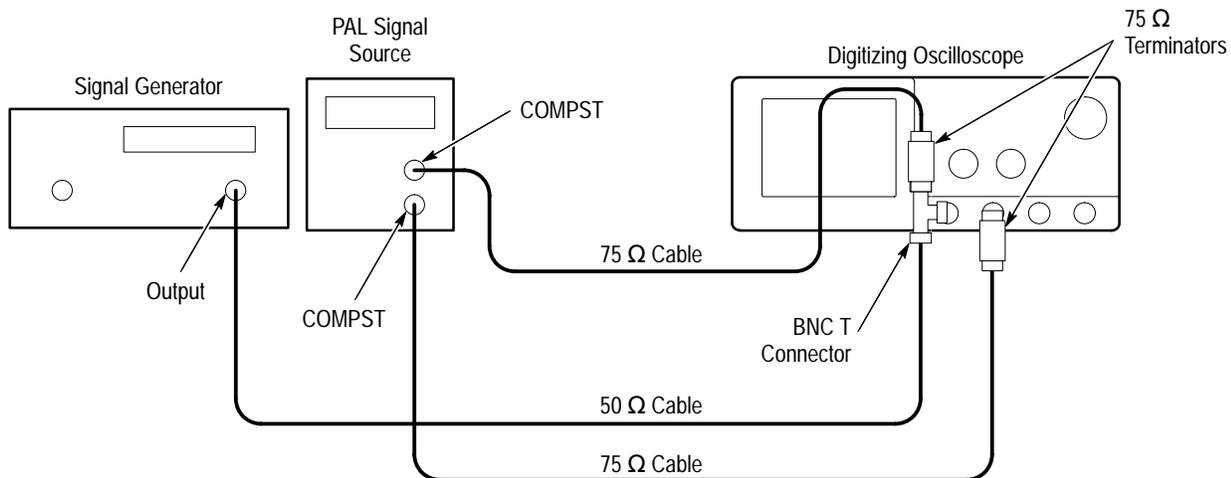

Figure 4–33: Subsequent 60 Hz Rejection Test Hookup
- Connect another composite signal connector of the PAL signal source (labeled **COMPST** on the TSG 121) through a 75  $\Omega$  cable and a 75  $\Omega$  terminator to the CH2 input. See Figure 4–33.
- CONFIRM that the **TRIG'D** LED stays lighted and that the waveform on screen is stable. In other words, be sure the waveform does not move horizontally or vertically. Also, confirm that the waveform on the screen has one positive pulse and a number of negative pulses. See Figure 4–34.